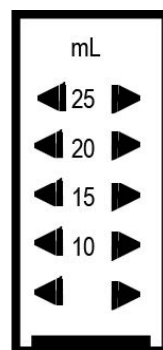

Figure 1
1. Fill the sample cup to the 25 ml mark with sample (Figure 1).